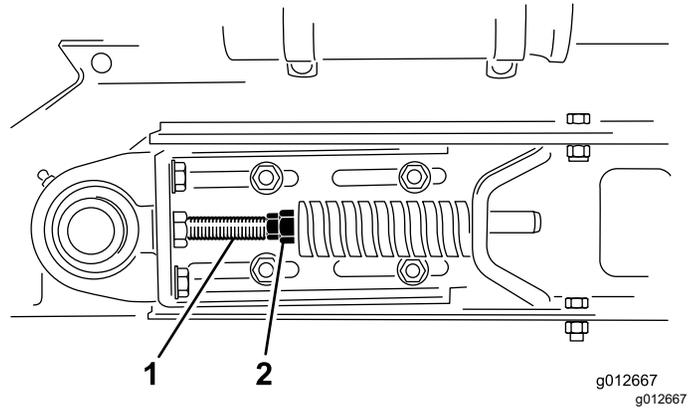

Figure 30
1. Loosen forward and rear jam nuts on tension rod to release spring tension (Figure 30).